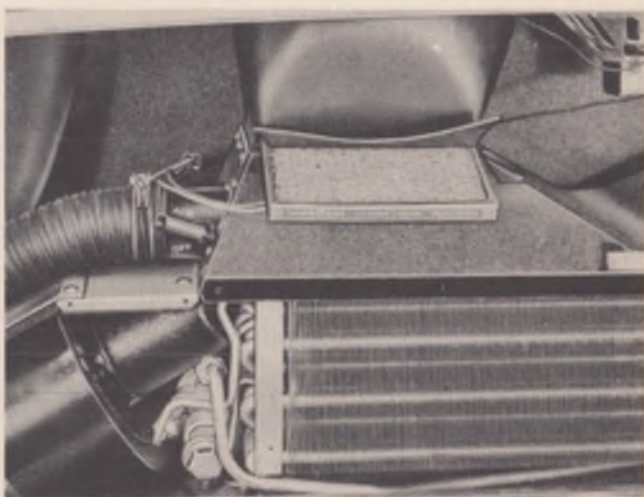

Fig. 27
2. Lift up the lower edge of the duct or boot and slide out the air filter. See figure 27.